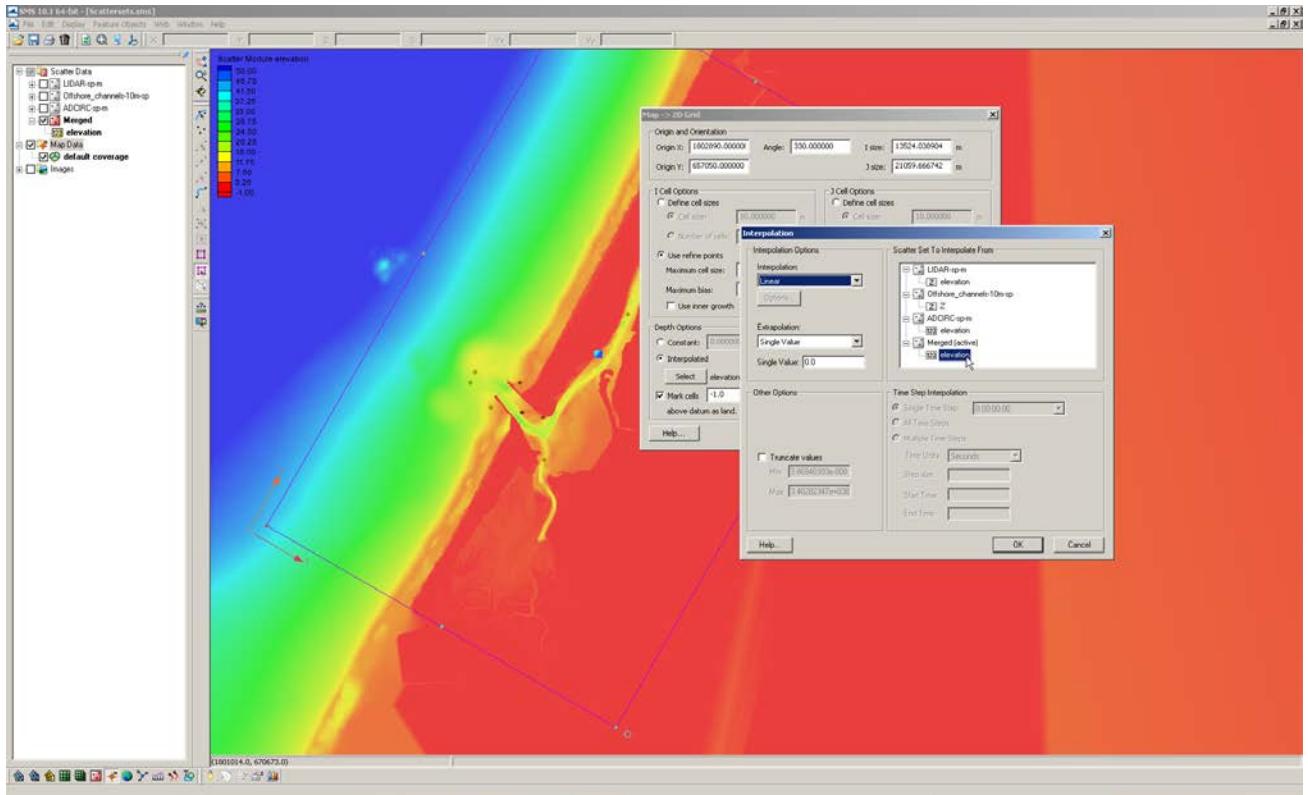

Figure 5. Depth interpolation options for the Map -> 2D function.
6. Click *Feature Objects, Map → 2D Grid*, and check that all the grid properties are set properly, *Use inner growth* is turned off, the *Interpolated Depth* (Figure 5) from the merged file is selected, and define an elevation cutoff where cells will be non-computational land cells (always dry, act as a wall).